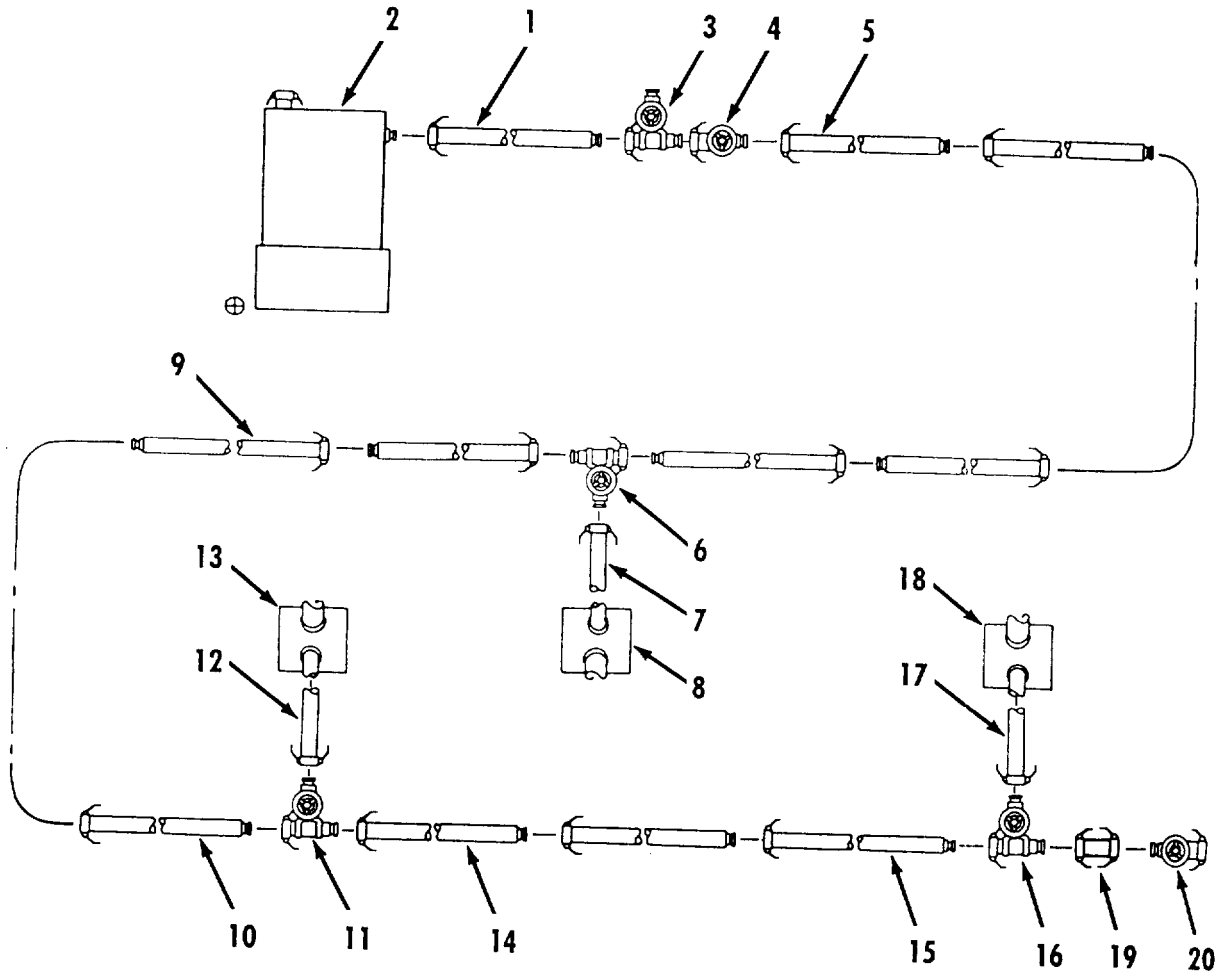

Figure 2-55. Fuel System - Primary 600 GPM Pump Output to Filler Hose of Fuel Tanks Removal.
- n. Fuel System - Primary 600 GPM Pump Output to Filler Hose of Fuel Tanks Removal. Refer to figure 2-55.